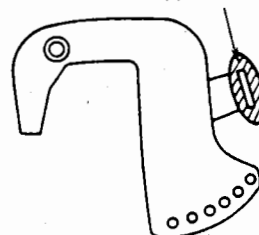

Fig. 94
- 8) Install the reverse lock lever grip in a manner as shown in the diagram below. (Fig. 94)